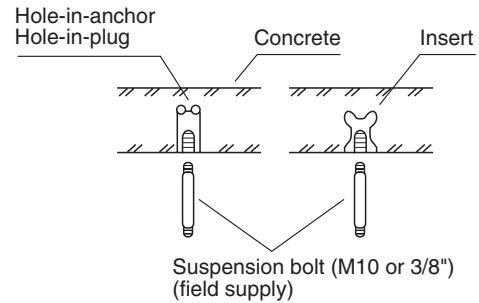

Fig. 1-46
- (1) Fix the suspension bolts securely in the ceiling using the method shown in the diagrams (Figs. 1-46 and 1-47), by attaching them to the ceiling support structure, or by any other method that ensures that the unit will be securely and safely suspended.